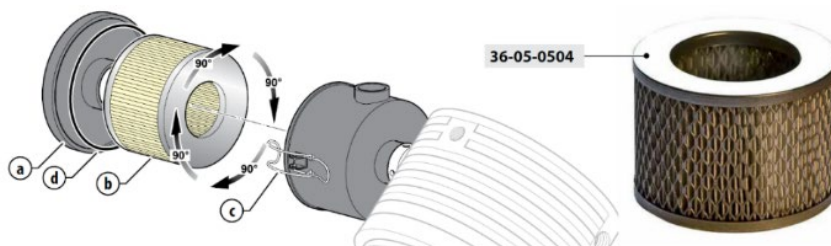

Figure 16. Rotating the air intake filter.
Change the air filter by following these steps (as illustrated in Figure 16):
- Replace the O-ring (see “d” Figure 16) with a new one.